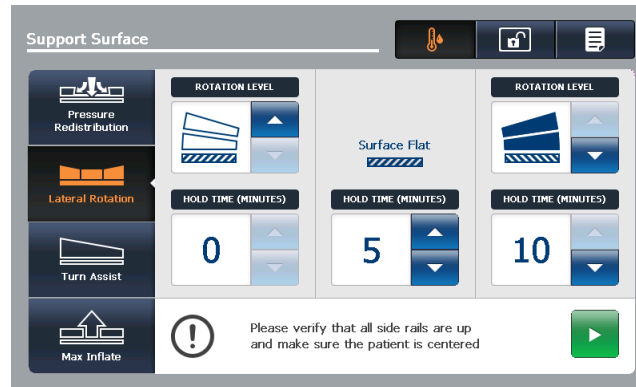

Figure 54 – Starting a one-sided Lateral Rotation
2. Tap **Up** on the opposite side to the desired angle (Figure 54).
3. Set the desired hold time (Figure 54).